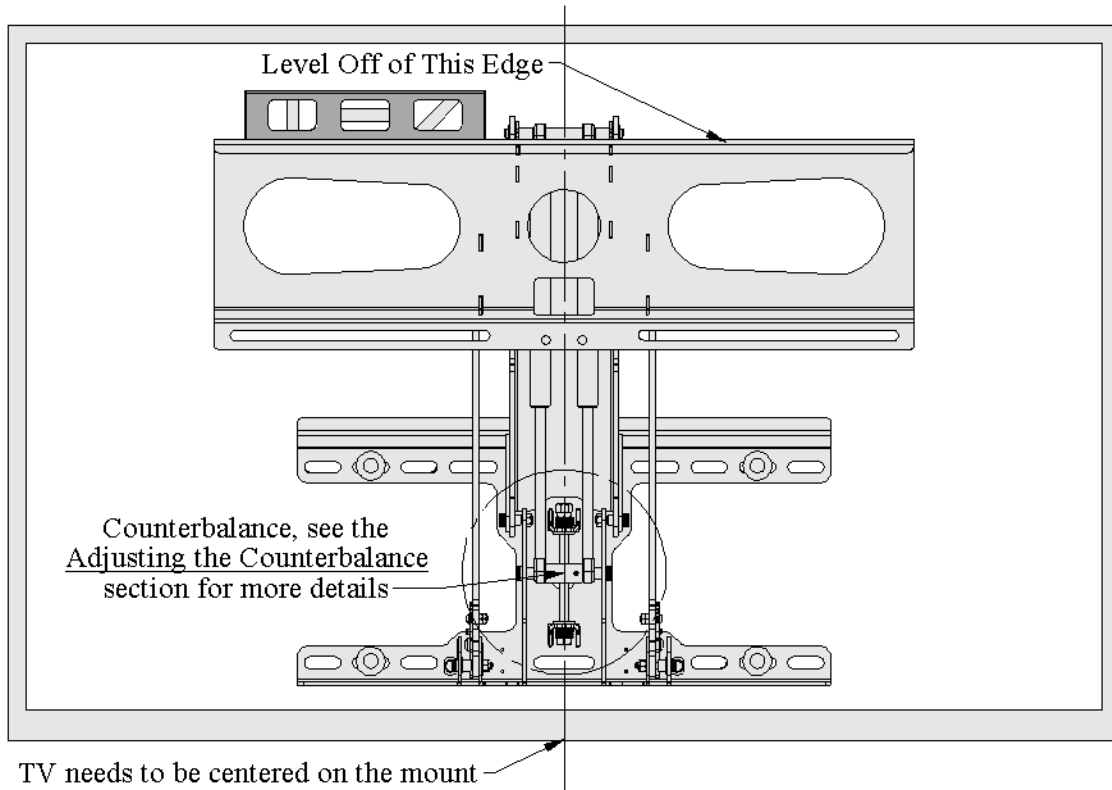

Figure 6, Positioning Mount on the Wall
7. Level the mount as shown in Figure 6.
Detail from Figure 6.